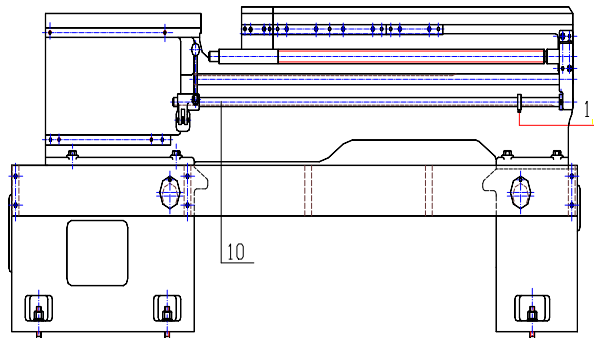
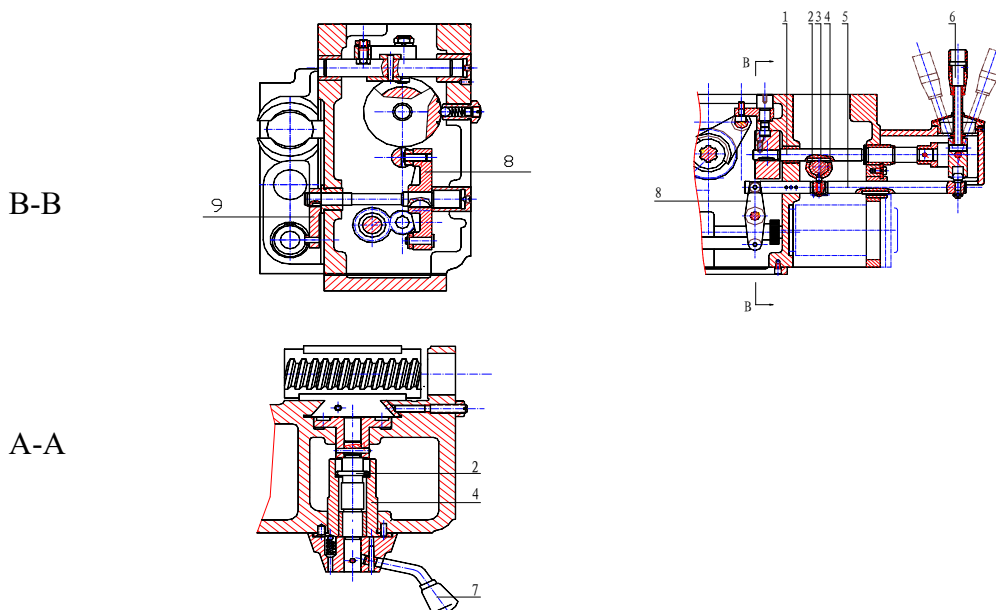

Fig. 28 Mechanism of limit touch-stop
Fig. 29 Interlocking mechanism of limit touch-stop feed rod and leadscrew.
The touch-stop ring 9(11) is set on a special position of the changing rod (10) of the machine (see Fig. 28). When the apron moves on to controlled position, the touch-stop ring (11) touches with the rod (9) to make the handle (6) recover to the stop position from longitudinal feed position to make the apron stops moving (see Fig. 29).
In order to prevent the feed rod and the leadscrew from driving the apron at the same time, resulting in accident due to interference with each other, the apron is provided with protection mechanism in it. When the control handle (6) controls the apron moving in any one of left, right, front and rear directions, the shaft (1) rotates on or the shaft (5) moves toward right or left to make the groove, on the shaft (1), aligned originally with the cam (2) or the hole on the shaft (5) which is the opposite of the pin (3) stagger each other. Owing to the fact that the cam shaft (2) does not rotate, the split nut cannot close. Thereby, ensuring that the split nut cannot close when the handle (6) is at any one of left, right, front and rear positions to avoid accident, conversely, if rotating cam shaft (2) make the split nut closing, the cam is inlaid into the groove of shaft (1) and the pin (3) is also squeezed in the hole of shaft (5), too, the control shaft (6) is locked at neutral stop position. Power is not transmitted into the apron through the feed rod or the rapid motor. Thus, the mechanism mentioned above ensures that the handle (6) and the handle (7) of the split nut work only at one working position, thereby, ensuring that the feed system can normally work without any trouble (see Fig. 29).